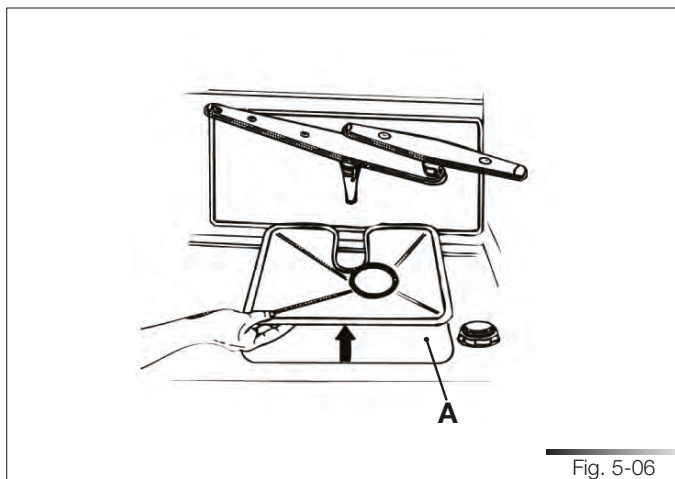

Fig. 5-06
- **When removing the filter**, take care that there are no food residues on it. If any residues fall into the washing pit (ref. A fig. 5-06), they might block hydraulic components or foul the spray arm nozzles.